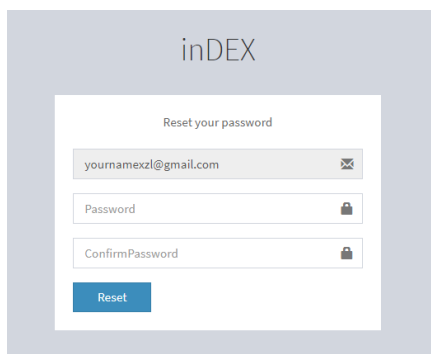

Figure 68
- They will then be taken to the inDEX login screen (<https://index.wittern.com/>). Their account login (Username) is the email address that the welcome email was sent to, and their password will be the password they just set. (See figure68)